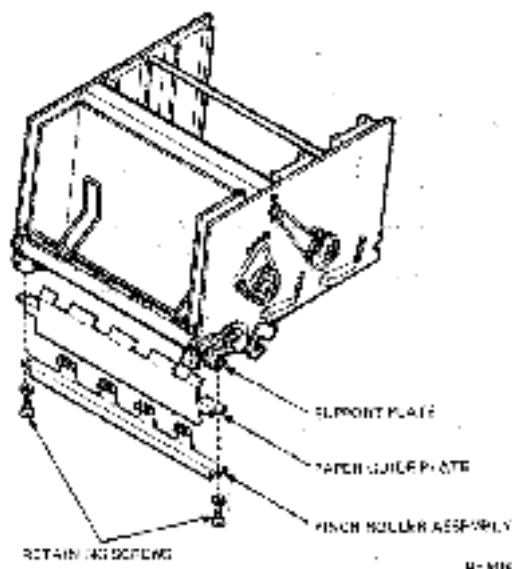

Figure 4-12 Pinch Roller Assembly Removal
2. Remove the retaining screw from each side of pinch roller assembly (Figure 4-12).
Position the ASF upside down to replace the pinch roller assembly easily. This position allows you to align the pinch roller assembly (bottom) and paper guide plate (middle) with the support plates (top) (Figure 4-12).